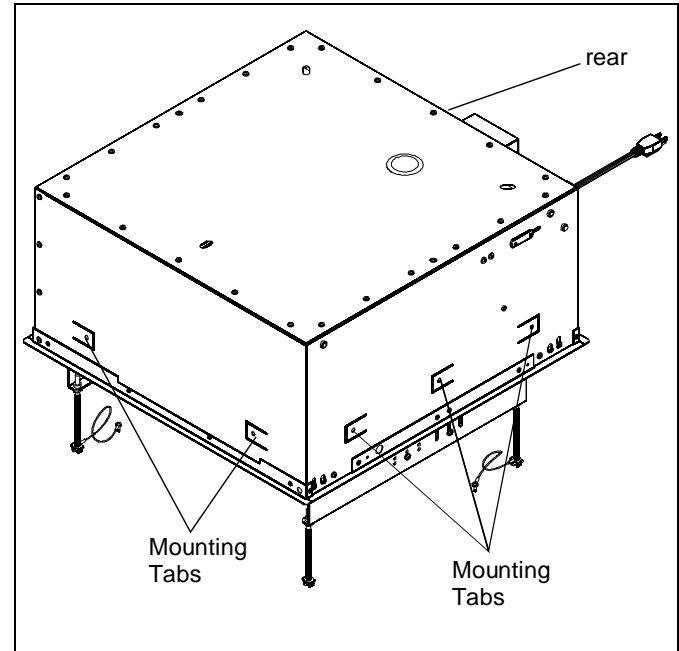

Figure 8
1. Use 1/4" x 1-1/2" (minimum) Grade 2 lag screws (not provided) to secure SL151 to the joists or wood framework, using the mounting tabs located on the sides of the SL151 housing. (See Figure 8).